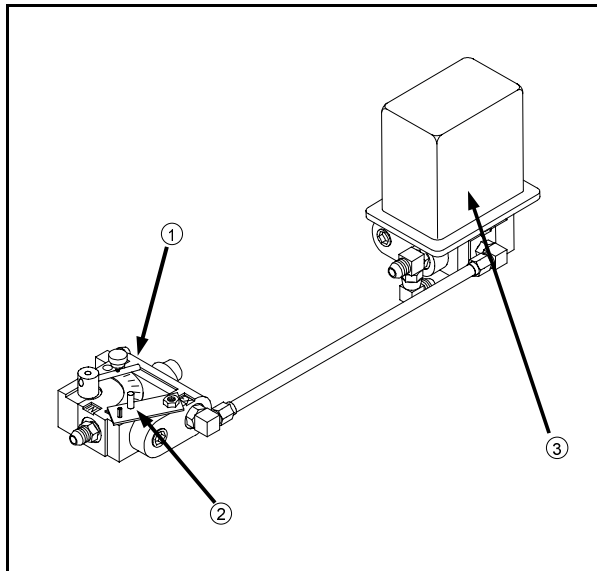

FIG 5.57
The monitor-controlled variable flow control (fig. 5.57, item 3) is supplied by a factory-preset manual variable flow control (fig. 5.57, item 1). It limits the maximum RPM of the hydraulic motor on the solution pump. Do not adjust the preset or remove the maximum stop (fig. 5.57, item 2).